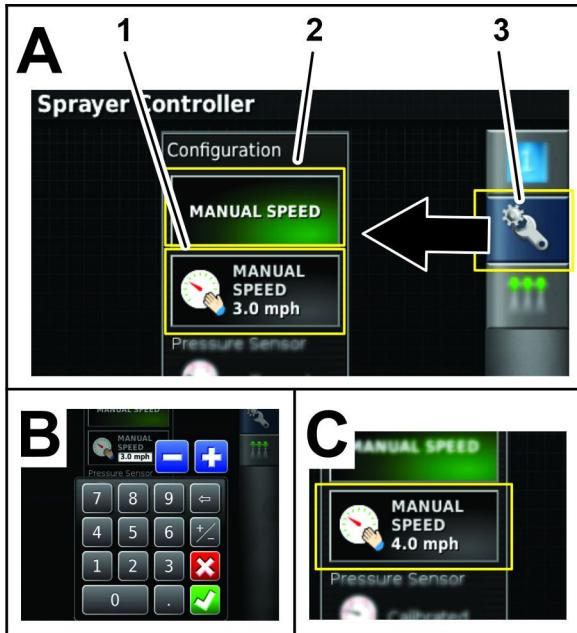

Figure 179
6. Press the MANUAL SPEED icon (Figure 179).
7. Press the manual speed entry icon (Figure 179).
8. Use the on-screen keypad to enter the simulated speed and press the confirm icon (Figure 179).